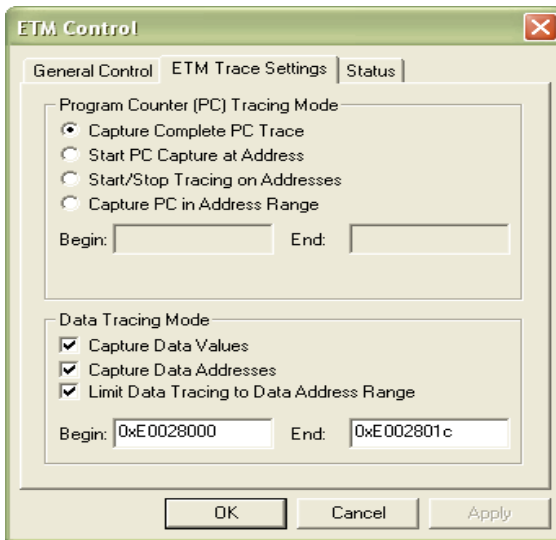

FIGURE 52 Adding tracing of variables to the ETM settings
1. To trace what is read and written to the IO ports, click on the Control button, select the ETM Trace Settings tab and make sure the Capture Complete PC Range is selected (Figure 52).